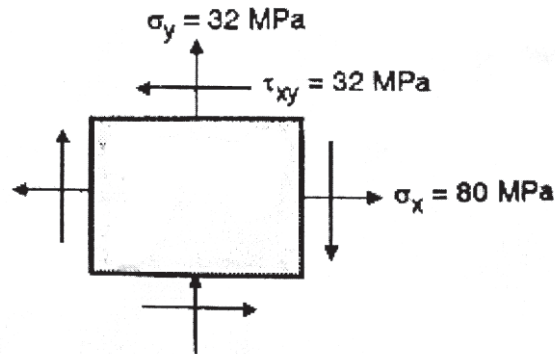

Fig.3
- Q5) a)** At a point in a strained material, the values of normal stress across two right angles to each other are 80 MPa and 32 MPa, both tensile and there is a shear stress of 32 MPa as shown in fig.3 Determine i) Principal stress ii) Location of principal stress iii) Maximum shear stress iv) Location of plane of maximum shear plane. [9]